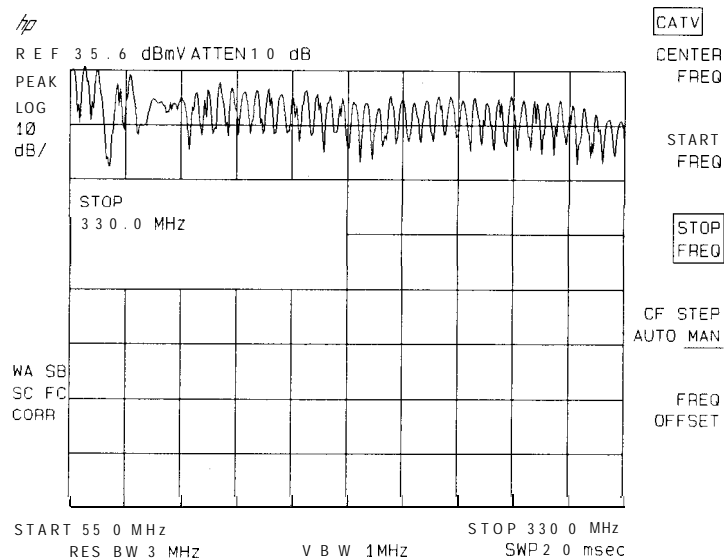

Figure 2-14.
- a. While in the CATV ANALYZER mode, press **(FREQUENCY)** START FREQ , then enter the lowest channel frequency. Press STOP FREQ , then enter the highest channel frequency. See Figure 2-14.